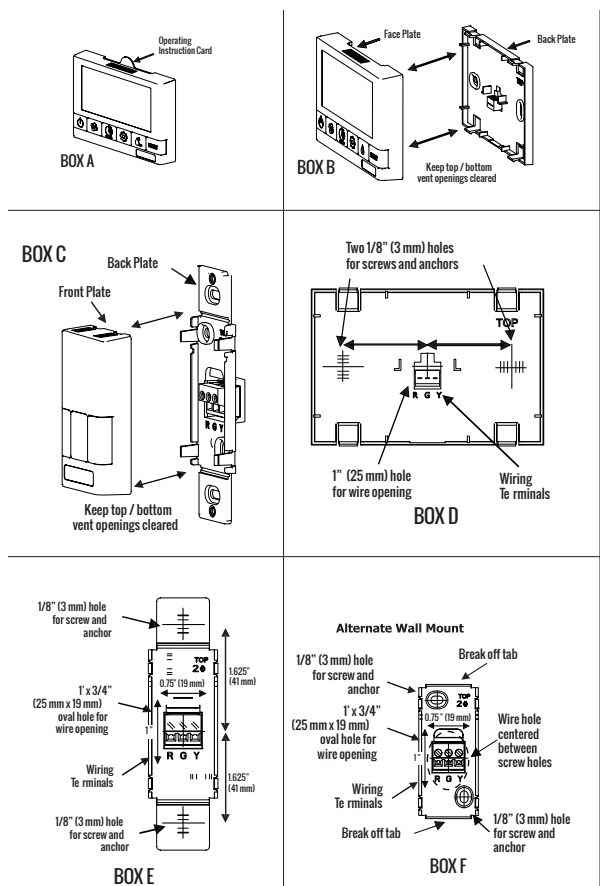

Figure 29. Installation of Controls
- For the PrecisionSYNC Control (435244), remove the operating instructions card from the top of the control (Figure 29, Box A).
- Separate the face plate from the back plate by firmly pulling apart (Figure 29, Boxes B or C). Be careful not to damage face plate contact pins.
- For the PrecisionSYNC Control, place the back plate of the control in the desired location on the wall and pencil mark the wall with the right and left screw holes (Figure 29, Box D).
- For the Two-Speed Switch with Humidity Sensor (435245) and Two-Speed Switch with Intermittent Mode (435246), place the back plate of the control in the desired location on the wall and pencil mark the top and bottom screw holes (Figure 29, Boxes E or F). For mounting the control without a decorative plate, break off top and bottom tabs and refer to Figure 29, Box F for mounting.
- Remove the back plate from the wall and mark the center hole for the wires in the middle of the screw holes. Refer to Figure 29, Boxes D, E or F for dimensions.
- Drill (two) 1/8" (3 mm) holes for the screws and wall anchors (Figure 29, Boxes D, E or F). For the PrecisionSYNC Control, drill a one inch hole in the center (Figure 29, Box D). For the Two-Speed Switch with Humidity Sensor (435245) and Two-Speed Switch with Intermittent Mode (435246), cut in a 3/4" (19 mm) by 1" (25 mm) oval hole in the center (Figure 29, Boxes E or F).
- Connect red, green, and yellow to the wiring terminals located on the back plate (Figure 29, Boxes D, E or F).
- Attach the face plate to the back plate (Figure 29, Boxes B or C).
- For the PrecisionSYNC Control (435244), insert the instructions card into the control (Figure 29, Box A).